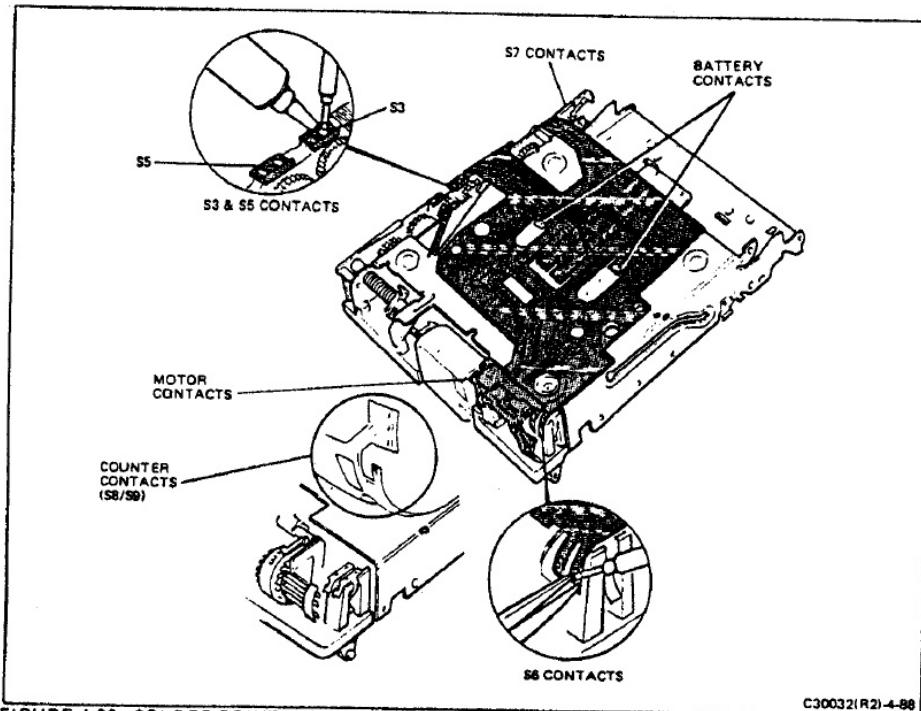

FIGURE 4-88 SOLDER POINT IDENTIFICATION
6. Referring to Figure 4-88 for the location of flex circuit contacts, unsolder the following contacts: (Use a solder-gobbler with the soldering iron and tweezers to help separate the contacts.)
- NOTE: In the remaining steps, refer to Figure 4-88 for the location of contacts mentioned.*